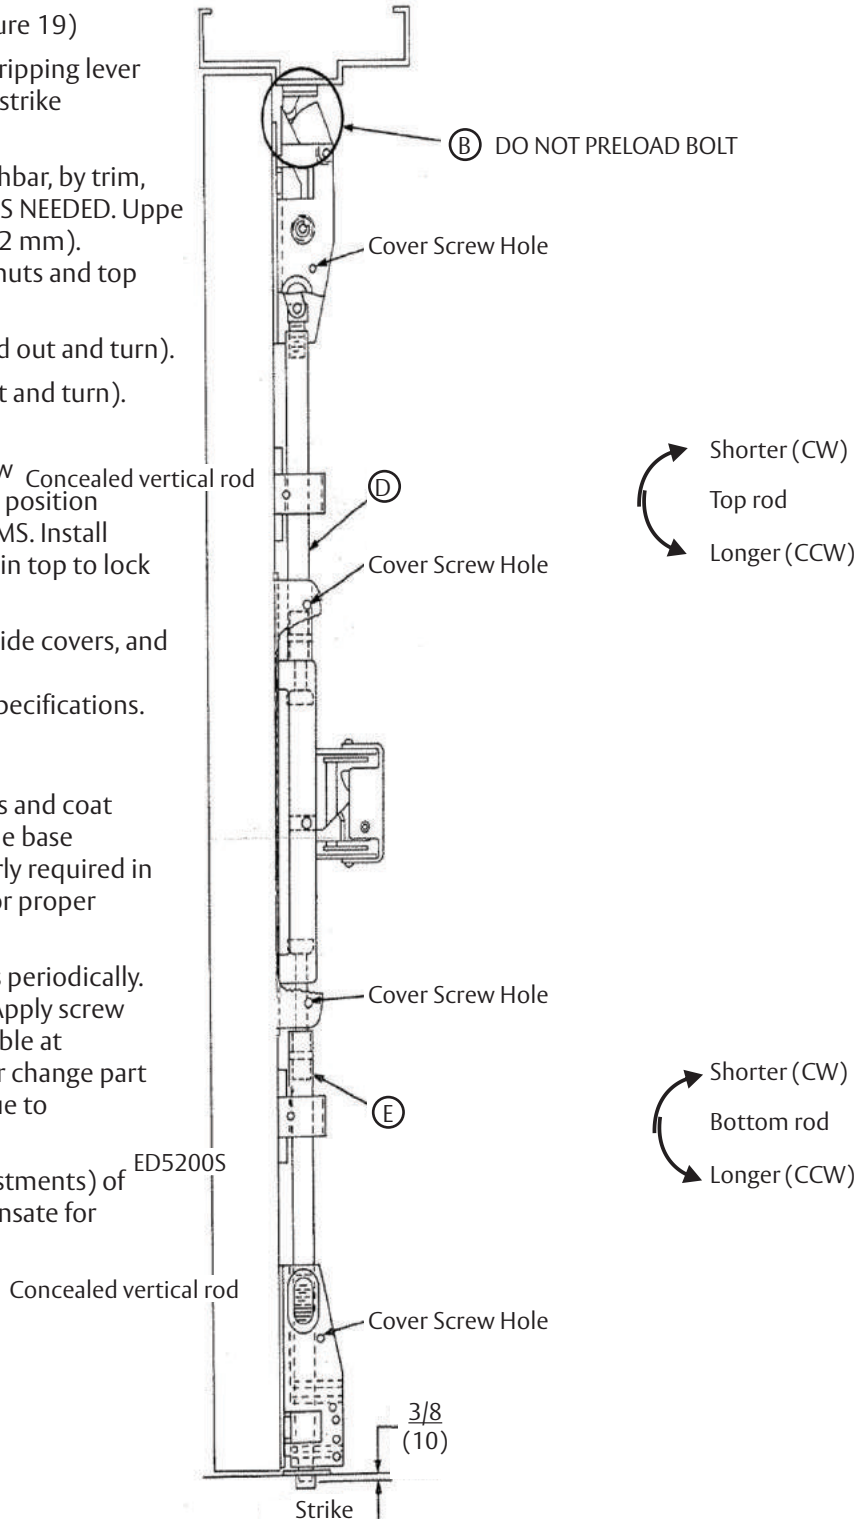

Figure 19
- A. Install rods as shown. (Figure 19)
- F. After acceptable device function, install third screw in top stike to lock stike in position (ED5400) 10-24 x 5/8" FHMS. Install two (2) remaining screws in top to lock strike (ED5470).